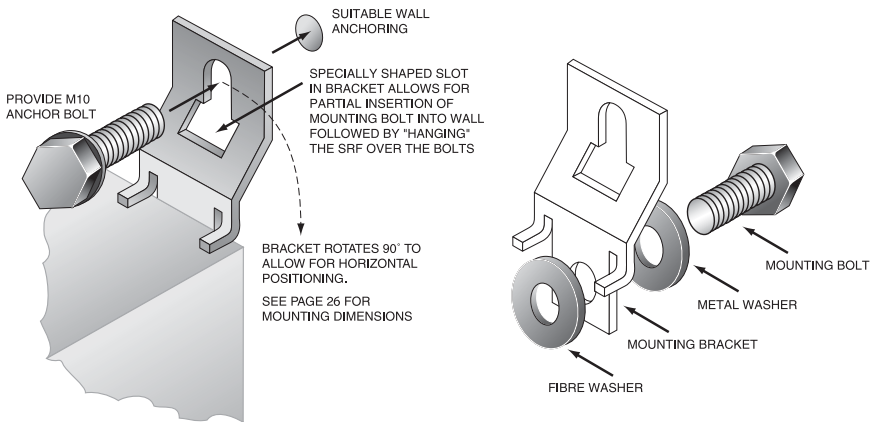

Figure 9. Typical mounting arrangement for wall mounted CRITEC® Surge reduction Filters (40-200A).
TSG-SRFs of 630A capacity and smaller are designed to be wall mounted. Mounting brackets (as shown in Figure 9) are supplied. Larger units are anchored through holes provided in the rear of the SRF enclosure.
- To preserve the IP rating, TSG-SRF units from 40A to 200A must be installed in accordance with Figure 9 and Section 6.2.